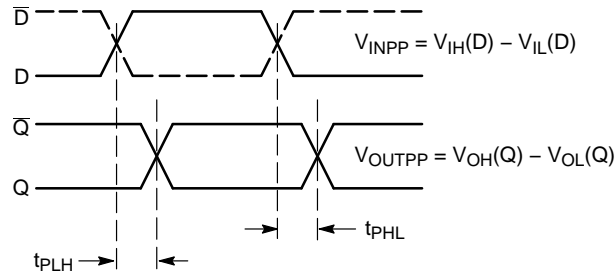

Figure 17. AC Reference Measurement
11. See Figure 17 differential measurement of $t_{skew} = |t_{PLH} - t_{PHL}|$ for a nominal 50% differential clock input waveform @ 250 MHz.